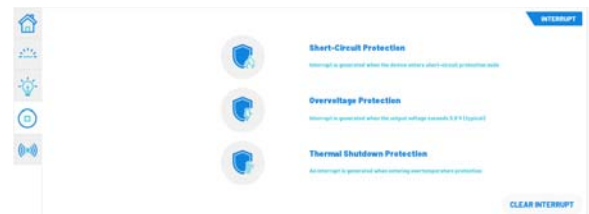

Figure 13. **INTERRUPT** Tab for Windows
8. In the **Interrupt** main tab for Windows, users can enable device protection as well as clear interrupts when triggered (see Figure 13).